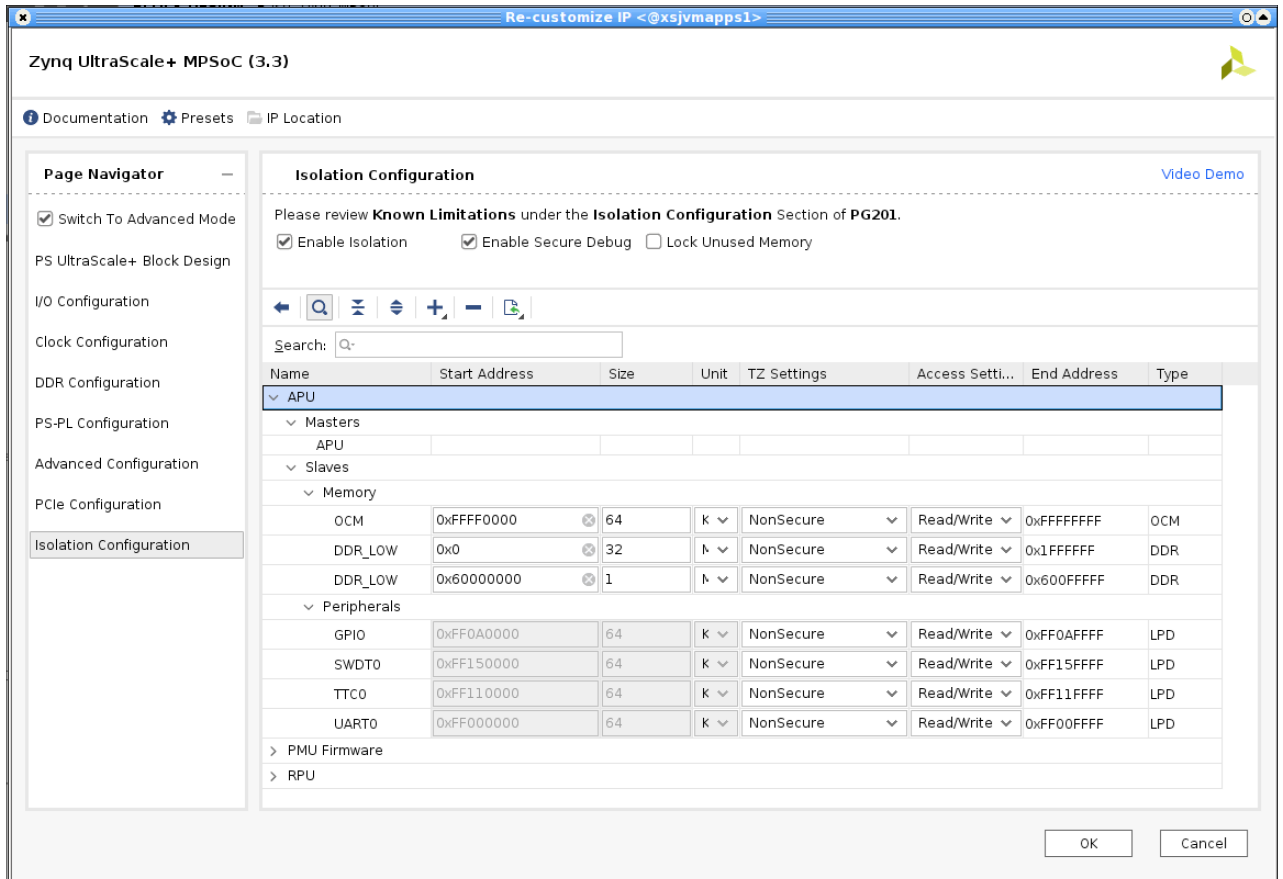

Figure 16: Re-customize IP Window: APU
2. The Isolation Configuration window should look like Figure 16, Figure 17, and Figure 18.